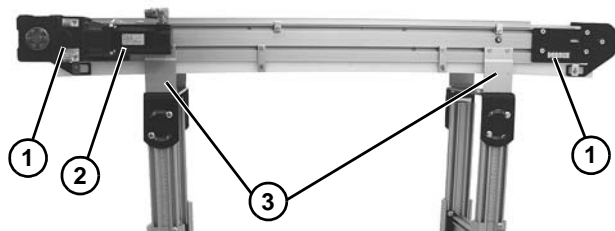

Figure 19
1. Place temporary support stands at both ends (**Figure 19, item 1**) of the conveyor. Place an additional support stand under the drive motor (**Figure 19, item 2**), if equipped. See WARNING.
2. Remove mounting brackets (**Figure 19, item 3**) from one side of conveyor. (Reverse steps 3 & 4 of “Mounting Brackets” section on page 7).